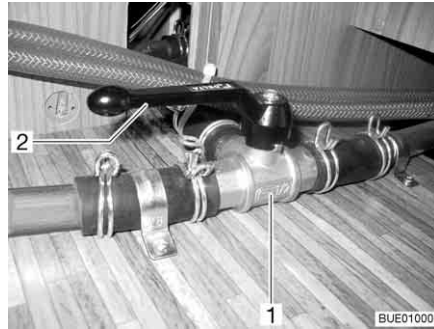

Fig. 168 3-way valve
- Set the lever (Fig. 168,2) of the 3-way valve (Fig. 168,1) parallel to the straight flow direction (Fig. 168).
- Set the lever (Fig. 168,2) of the 3-way valve (Fig. 168,1) transverse to the straight flow direction.